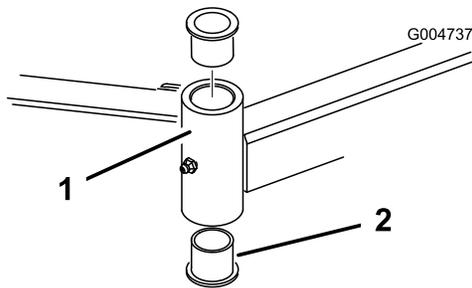

Figure 88
4. Insert a pin punch into the top or bottom of the mounting tube and drive the bushing out of the tube (Figure 88). Also drive the other bushing out of the tube. Clean the inside of the tubes to remove dirt.